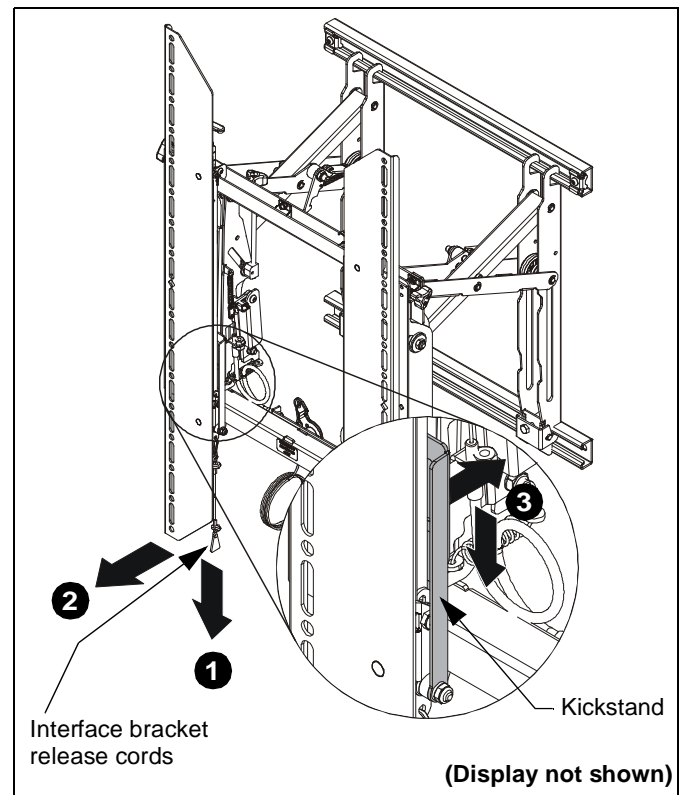

Figure 19
1. Pull down on interface bracket release cords. (See Figure 19)